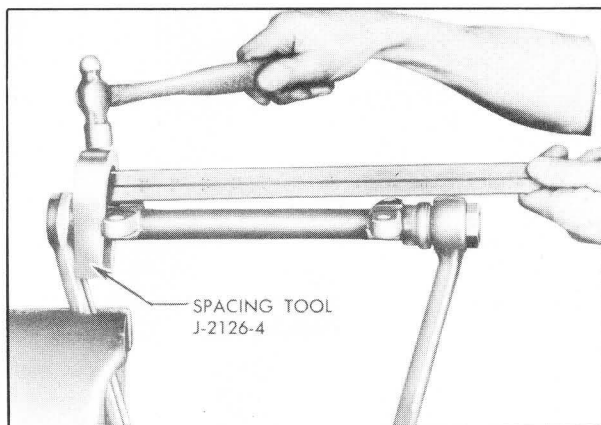

Figure 6-25—Spreading Arms for Installation of Second Bushing
7. After the first bushing has been installed, revolve the shaft in threaded bushing until the shaft is in the approximate center between the two arms. Spread the arms  $\frac{1}{64}$ " to  $\frac{1}{32}$ " more than the normal dimension by using Spacing Tool J 2126-4. See figure 6-25.